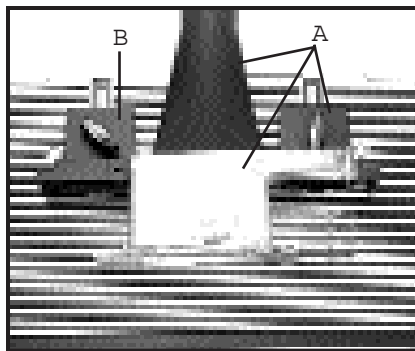

Fig. 9
7. Position the right hand (in-feed) fence bracket and guard assembly (A) Fig. 9, to the slot on the right side of the table. Insert a $5\frac{5}{16}$ "-18 x $1\frac{1}{4}$ " carriage bolt (from the hardware package), up through the table and the fence bracket. Secure by threading on one of the black knobs.
8. Assemble the left hand (out-feed) fence bracket (B) Fig. 9, to the table in a similar fashion.